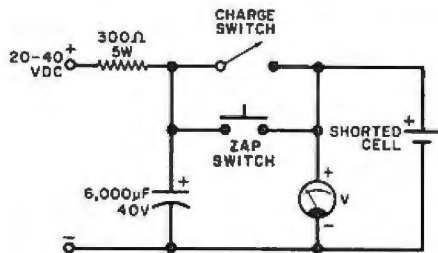

Fig. 2. Shorted cell is cleared by energy stored in capacitor.
**Clearing the Short.** Using the circuit shown in Fig. 2, the internal short can be burned away in a few seconds. In operation, energy stored in the capacitor is rapidly discharged through the dead cell to produce the high current necessary to clear the short. Current is then limited by the resistor to a safe charge rate for a small A cell.